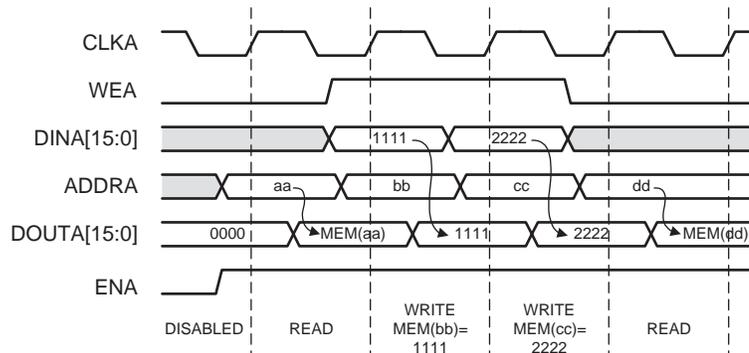

Figure 9: Write First Mode Example
- Write First Mode:** In WRITE_FIRST mode, the input data is simultaneously written into memory and driven on the data output, as shown in Figure 9. This transparent mode offers the flexibility of using the data output bus during a write operation on the same port.